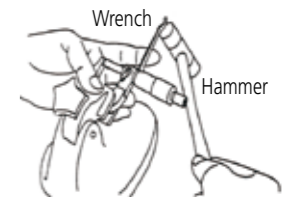

Fig. 1
- If the zero point is off, reset by rotating the sleeve with the wrench, tapping the wrench gently with a hammer if necessary. (Fig. 1)